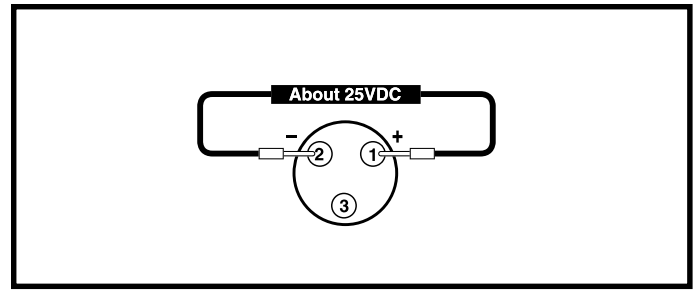
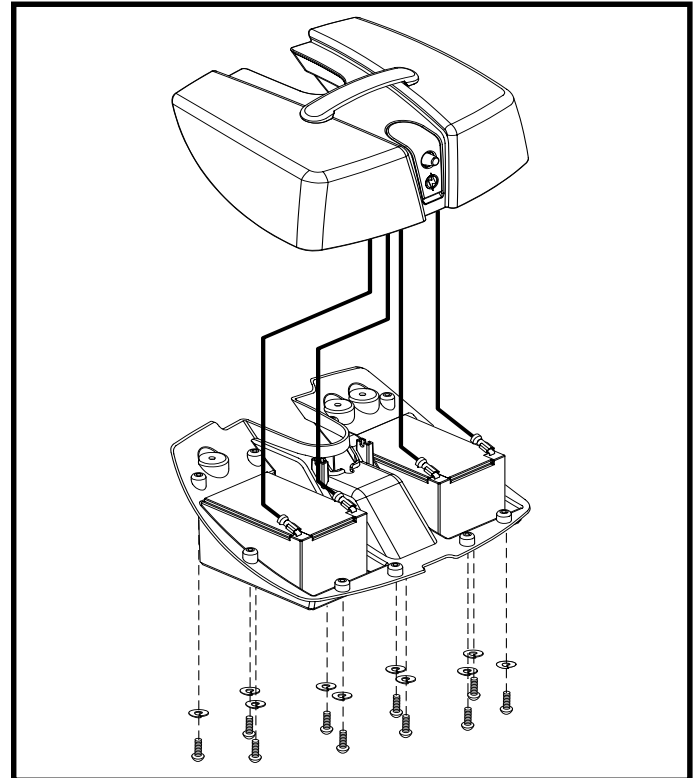

Figure 2. Connector 1a
Figure 3. Battery Box Disassembly
1. Locate the off-board charging socket (1a) on the front of the VSI controller (1). **See diagram 1.**
2. Measure voltage across pin 1 (B+) and pin 2 (B-) on connector 1a. **See figure 2.**
- *If your multimeter indicates about 25VDC*, then replace the VSI controller (1) and retest the system.
5. Remove the hardware from the bottom of the battery box and open the battery box. **See figure 3.**
- *If your multimeter indicates more than 0VDC*, then replace the off-board charger (9) and retest the system.
8. Remove the screws from the bottom of the battery box and open the battery box. **See figure 3.**